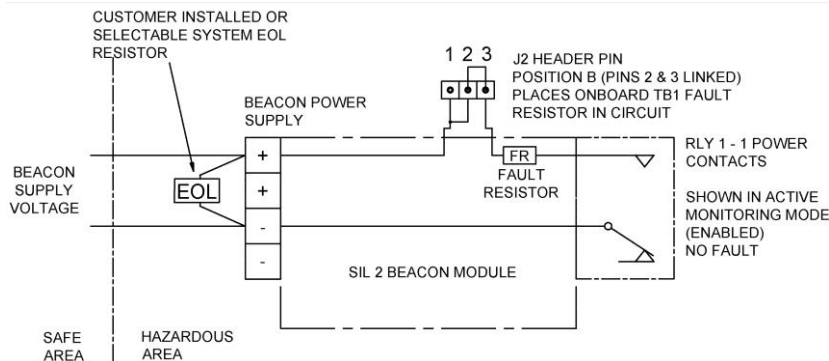

Figure 7 - Schematic of SIL 2 system wiring for fault detection in standby mode only – 2 wire installation
- A single unit topology is where only one unit is connected to the customer interface line, as shown in figure 7.